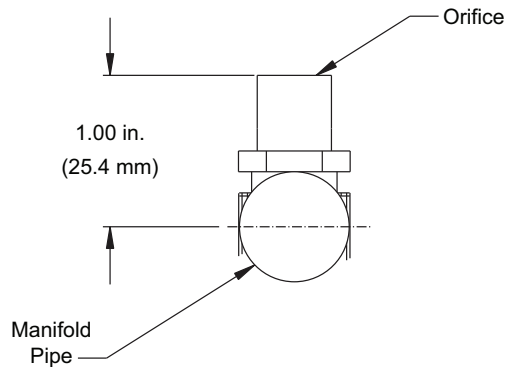

Fig. 52 — Orifice Projection
Refer to Fig. 52 for maximum projection dimension for orifice face to manifold tube.
5. If factory orifice has been removed, check that each orifice is tight at its threads into the manifold pipe and that orifice projection does not exceed maximum value. (See Fig. 52.)